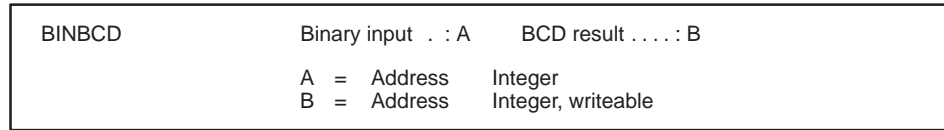

Figure 7-7 BINBCD Format
**BINBCD Description** The Convert Binary Inputs to BCD statement (Figure 7-7) converts the binary representation of an integer to the equivalent Binary Coded Decimal (BCD) value. Values up to 9999 are converted to equivalent BCD values.